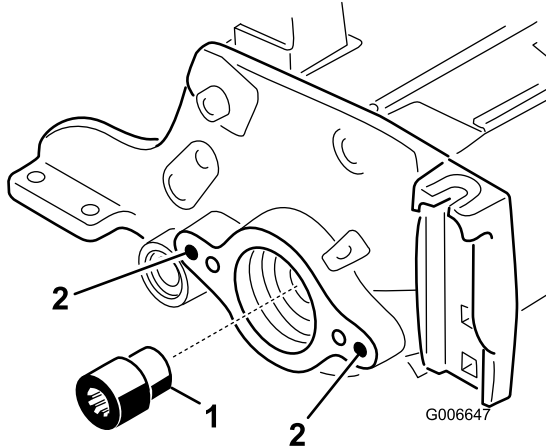

Figure 22
19. Using the Reel Drive Shaft Tool, remove the splined insert from the reel motor end of the reel shaft (Figure 22). Use Reel drive shaft tool, Part TOR4112 on
20. Install the new (longer) splined insert to the reel shaft (Figure 22). Apply blue Loctite to the threads of the insert prior to installation. Torque to 85-95 ft-lb.